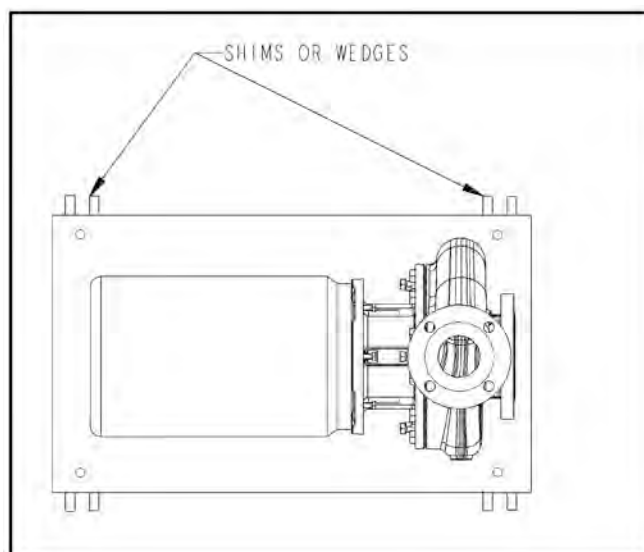

Figure 8:
1. Place two sets of wedges or shims on the foundation, one set on each side of every foundation bolt (Fig. 8 & 9). The wedges should extend 20mm | .75 in. to 40mm | 1.50 in. above foundation, to allow for adequate grouting. This will provide even support for the baseplate once it is grouted.